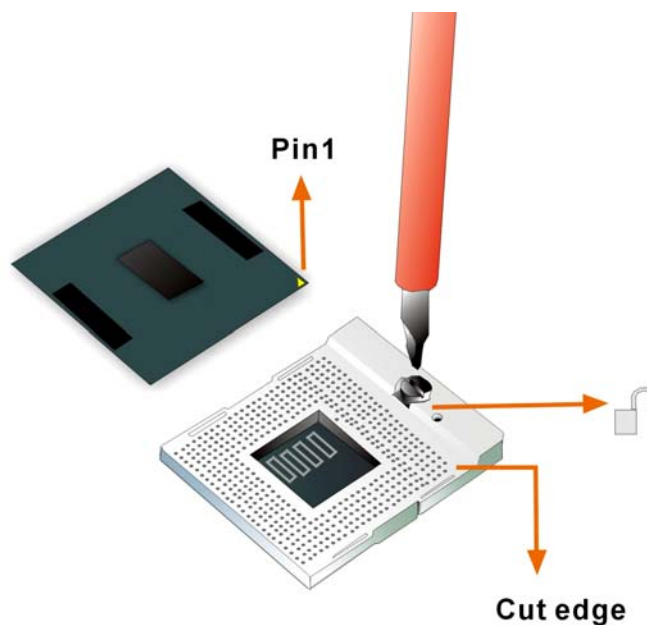

Figure 5-1: Make sure the CPU socket retention screw is unlocked
Step 1: Unlock the CPU retention screw. When shipped, the retention screw of the CPU socket should be in the unlocked position. If it is not in the unlocked position, use a screwdriver to unlock the screw. See **Figure 5-1**.
- Step 4: Correctly position the CPU.** Match the Pin 1 mark with the cut edge on the CPU socket. See **Figure 5-1**.